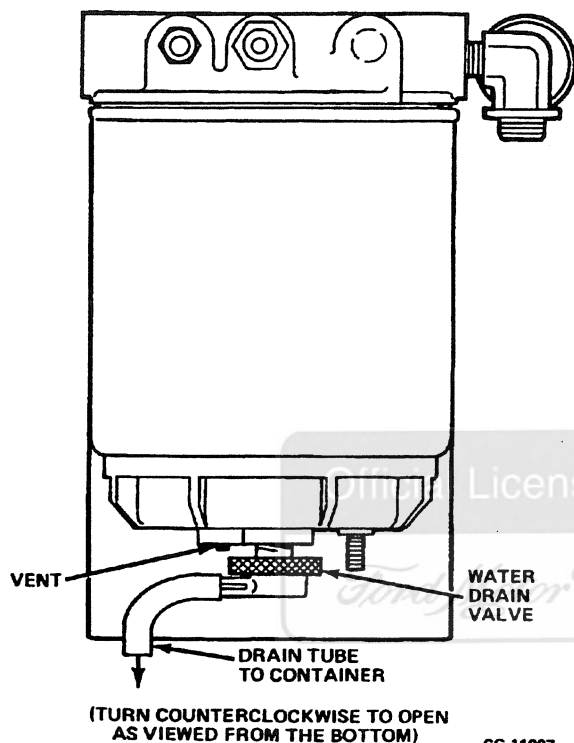

Figure 9.18. Fuel Filter/Water Separator
3. Open the drain valve by turning counterclockwise (as viewed from the bottom) (Refer to Figure 9.18). Drain for about 10 seconds or until clear diesel fuel flows from the drain bowl.